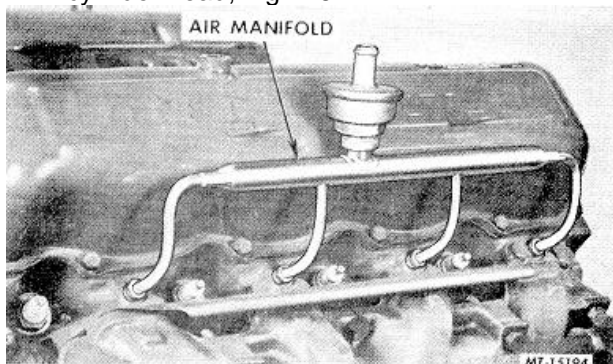

Fig. 26 Removing Air Manifold from Cylinder Head
31. Remove air manifold assembly from each cylinder head, Fig. 26.